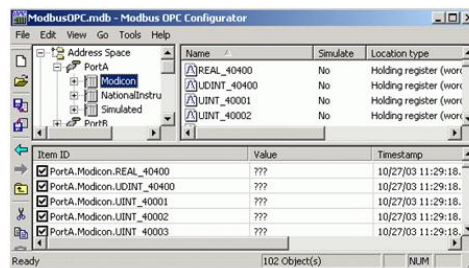

Figure 3.5: Runtime Monitor View
- **Monitoring View:** The Configurator includes a runtime monitor for viewing server data. To change to the monitor view, select Monitor View from the View menu. The runtime monitor appears in the bottom pane of the Configurator screen, as shown in the figure below (Figure 3.5). During runtime, the monitor scans the server and displays the tag values and other statistics such as date, time, and quality. Monitoring is enabled for each item with a check mark next to it. To enable/disable monitoring for an item, you can click on the box to the left of the item. A check mark inside the box means the item is enabled for monitoring. If there is no check mark, then the item is disabled.